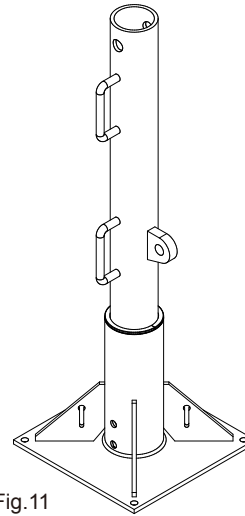

Fig.11
2. Put the mast weldment(#3) into the base(#1) fig.11.